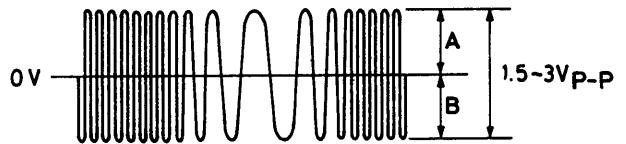

Fig. 1
- c Measure the tracking error signal (TP8) on the oscilloscope and adjustment SVR101 so that the waveforms are made symmetrical at the top and bottom with respect to 0V, as shown in Fig.1.